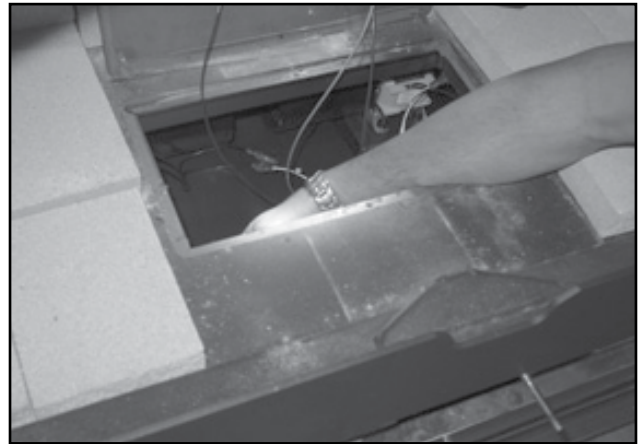

Figure 4.17
- Remove 2 screws from timer mounting plate. Place your hand into the access door in the floor of the fireplace. Let the timer assembly and plate drop down and rotate it up through the access door. You will be looking at the back side of the assembly. Figures 4.17 & 4.18.